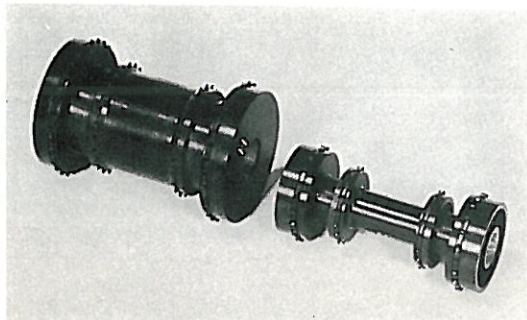
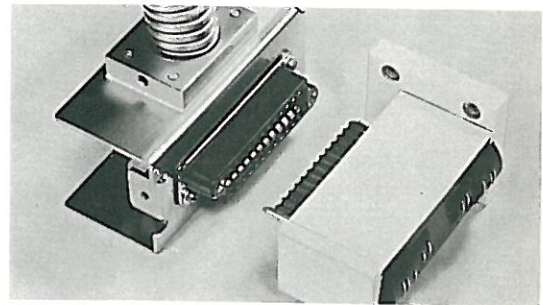
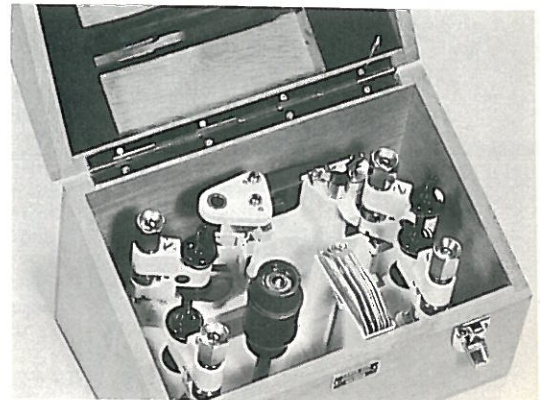

Fig. 1. Holdback and intermittent sprockets
Fig. 2. Magnetic cluster
Fig. 3. 35mm conversion chest
**SIMPLE CHANGEOVERS** from one film size to another in less than 4 minutes are made possible because of the few steps required. Errors that could result in film damage are practically impossible. For example, the sprockets (Fig. 1), all of the idler rollers and the fire-traps are suitable for both 70mm and 35mm films without any alteration. The magnetic cluster (Fig. 2) and the sound drums are suitable for 6 track 70mm prints and 4 track 35mm magnetic prints without change . . . and use the same threading path. A handy storage case (Fig. 3), contains all the necessary parts for changing between 70mm to 35mm. The case is fitted with a holding pin for each item and a quick glance suffices to determine the state of the conversion.